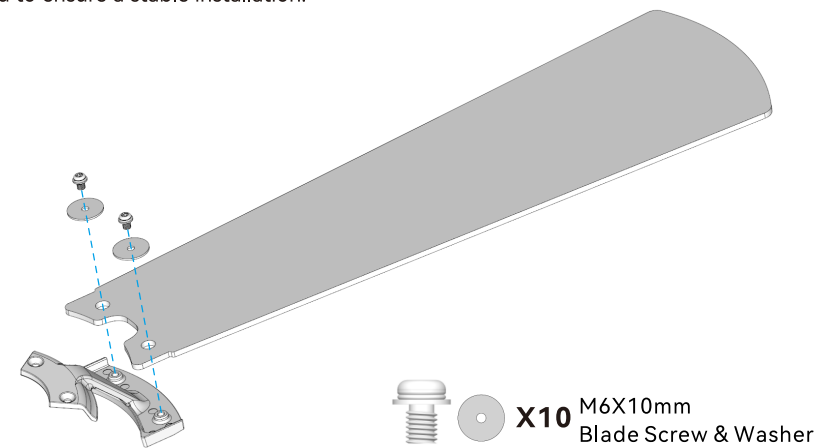

Fig. 1.1
- 1.1 Locate 10 blade attachment screws and washers in the hardware pack. Secure each blade to the blade bracket with the screws and washers as shown in Fig.1.1.